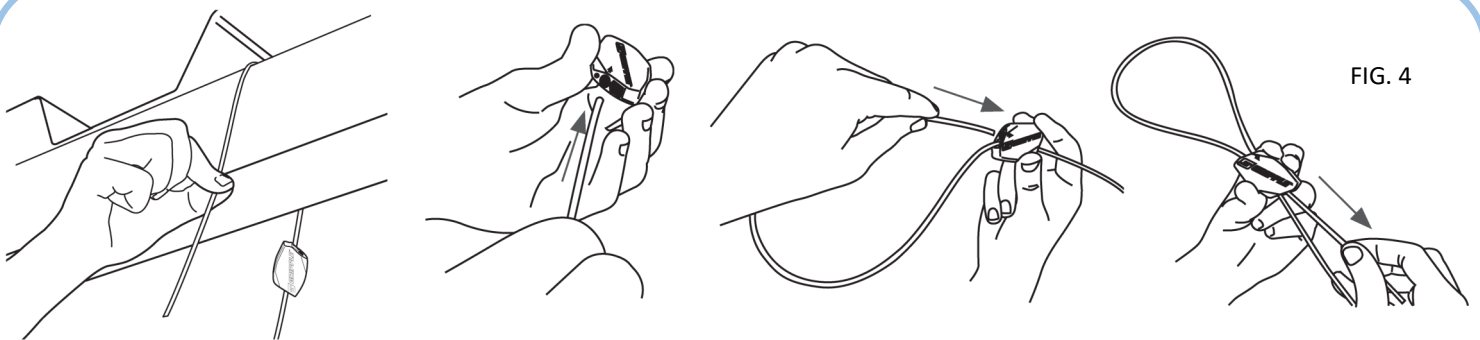

FIG. 4
- Sling the suspension cable around the mounting feature and insert into the Gripple clasp (Fig. 4).